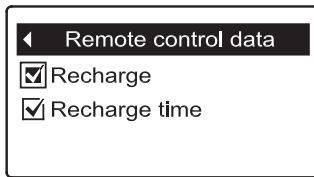

FIG. 70
4. Press the SELECT (○) button to display the Remote control data screen (See Figure 70).